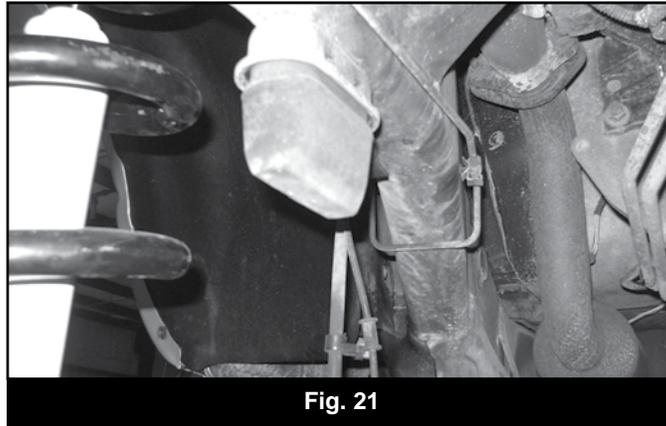

Fig. 21
50. Remove factory bumpstops. It is easiest to take a hammer and hit the bumpstop sideways in order to get them to pop out of the cups, or use a set of channel locks. (Fig 21)